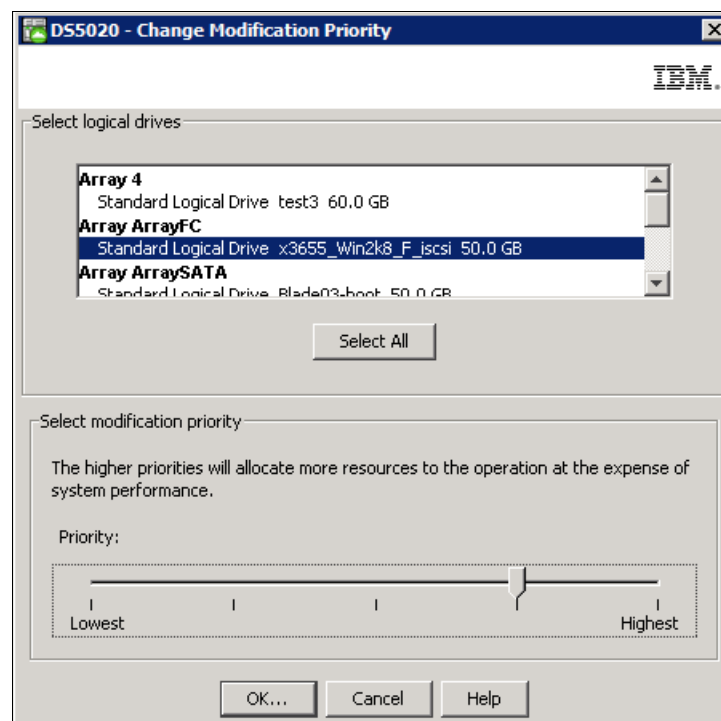

Figure 3-108 Modification priority for a logical drive
2. Make sure that the correct logical drive is selected, and set the new Modification Priority value, as shown in Figure 3-108.